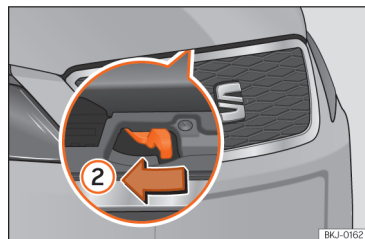

Fig. 172 Lever under the bonnet.
- To lift the bonnet, press towards the left on the lever located under the bonnet, in the centre >>> **Fig. 172 ②**. The fastening hooks are unlocked.